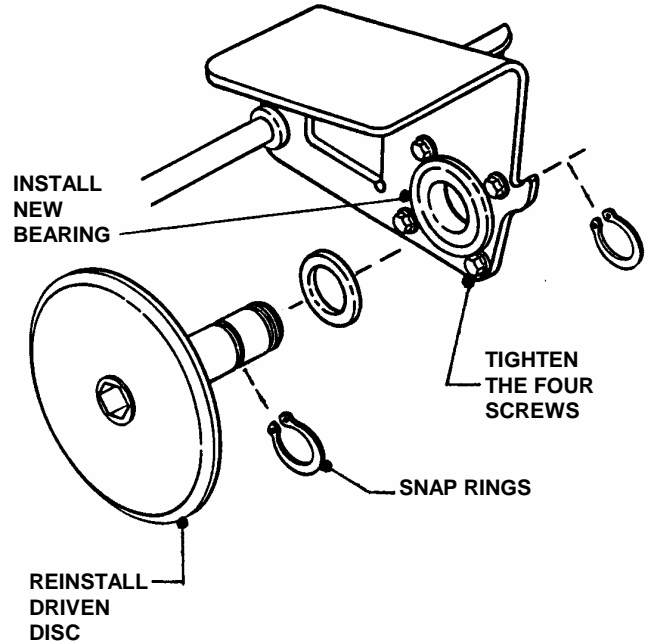

FIGURE 4.16
3. Remove both snap rings that secure rubber driven disc hub to thrust plate. See Figure 4.16.